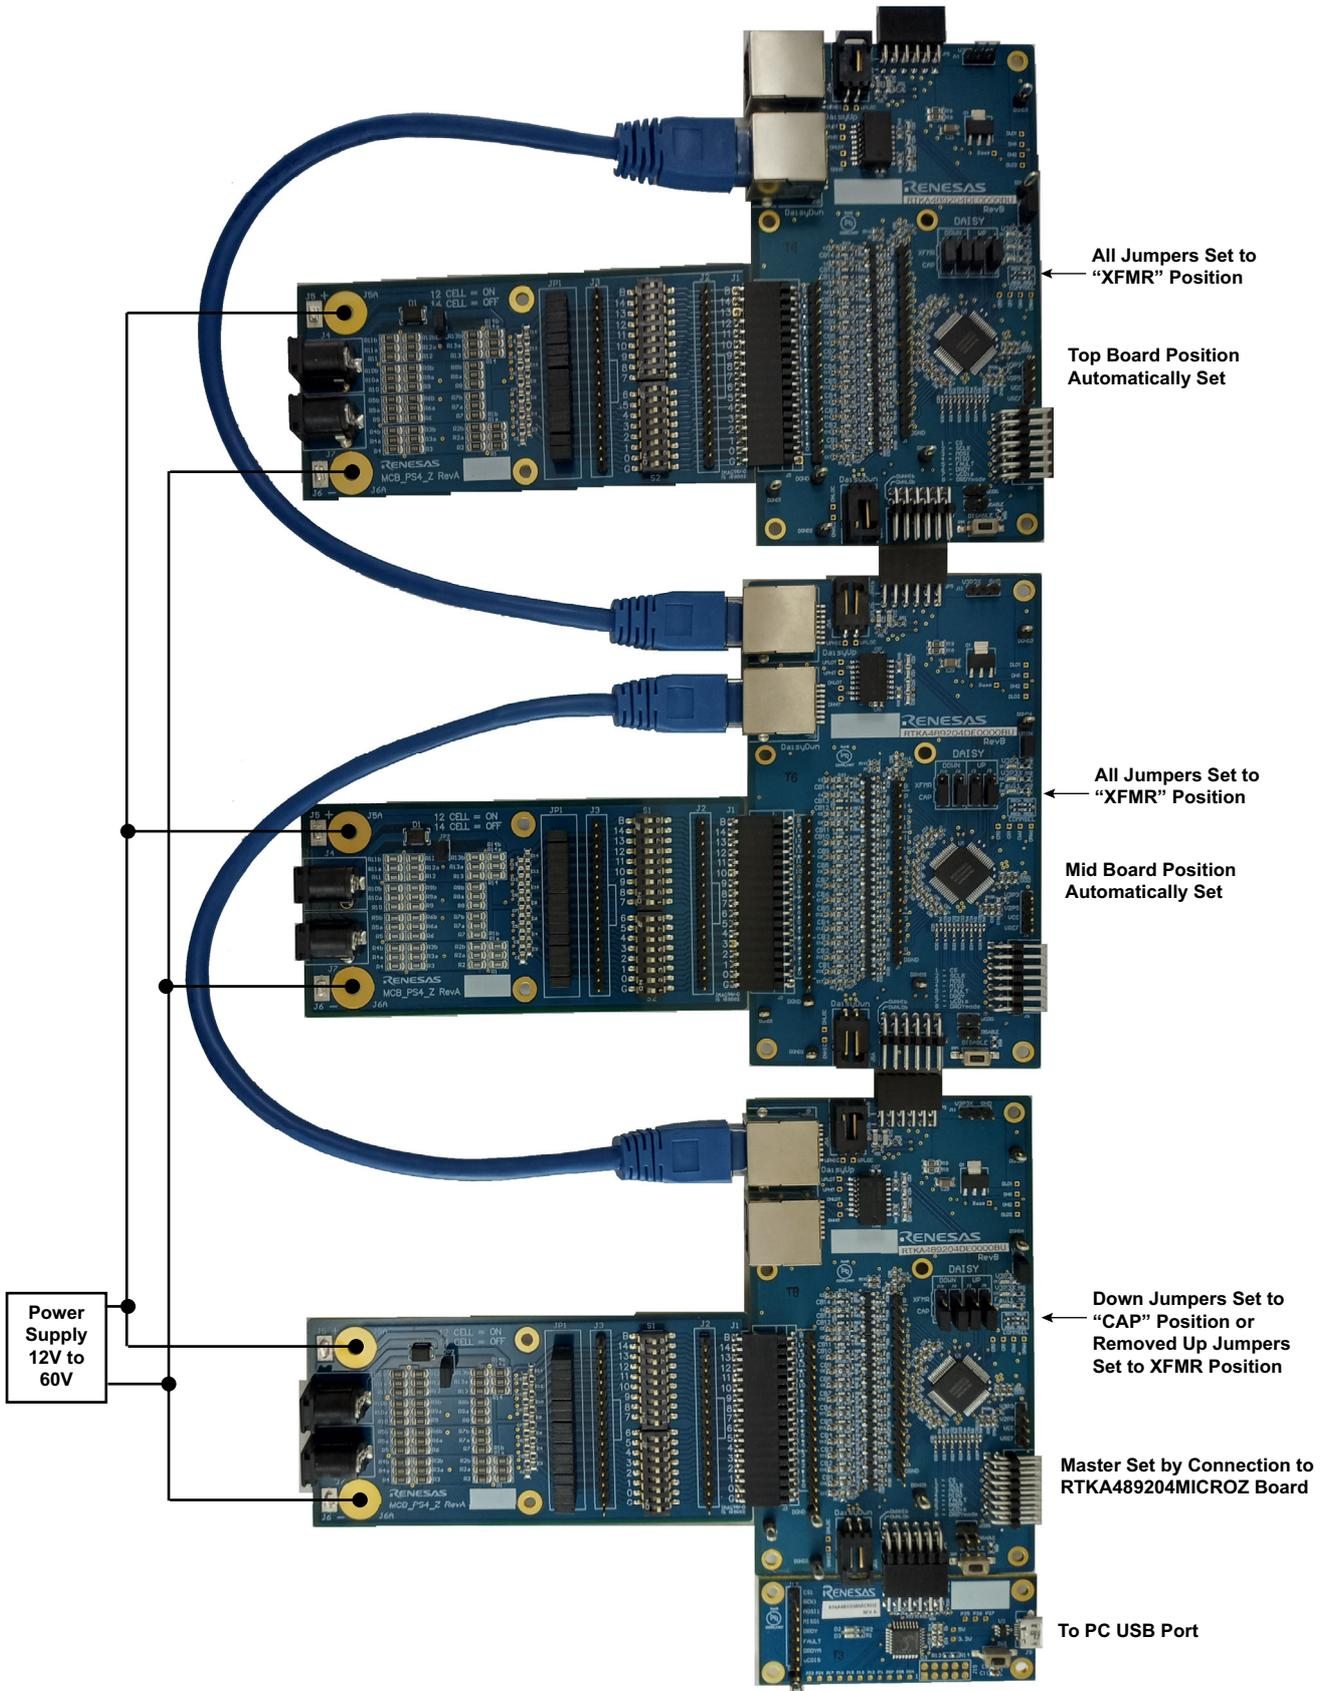

Figure 7. RTKA489204DK000BU RevB in 36-Cell Cable Connect Daisy Chain Configuration (Transformer)
- b. With transformer isolation, the boards are connected as shown in Figure 7. When using cables, connect the wires as shown in Table 1. (**Note:** The boards are configured to prevent both direct connection and twisted pair cable connection on the same port.)